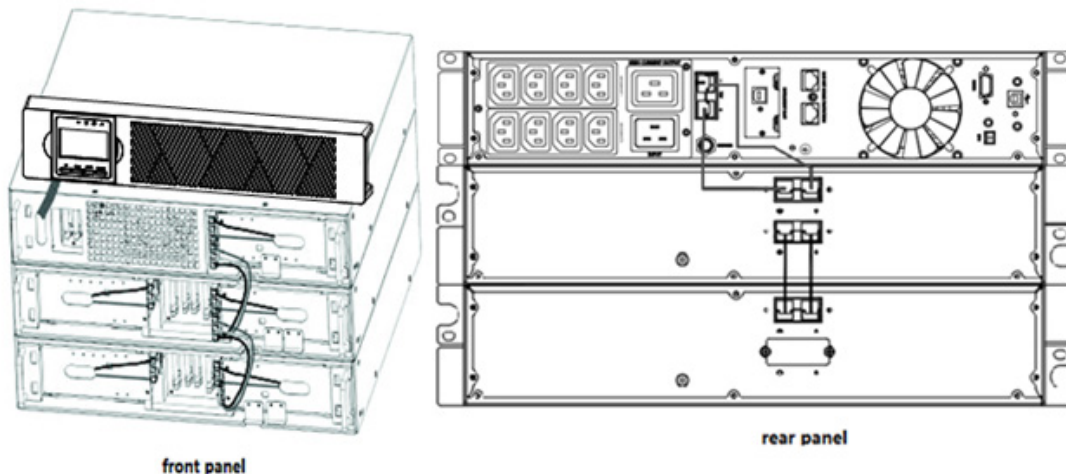

Figure 10: Typical EBP installation
- c) For the bottom (or only) EBP, remove the EBP cable knockout on the top of the EBP front cover. See Figure 10 for the location of the top EBP cable knockout.
- d) If you are installing more than one EBP, for each additional EBP remove the EBP cable knockout on the top and bottom of the EBP front cover. See Figure 10 for the location of the EBP cable knockouts.
- e) Plug the EBP cable(s) into the battery connector(s) as shown in Figure 10. Up to four EBPS may be connected to the UPS. Connect black to black. Press the connector tightly together to ensure a proper connection.